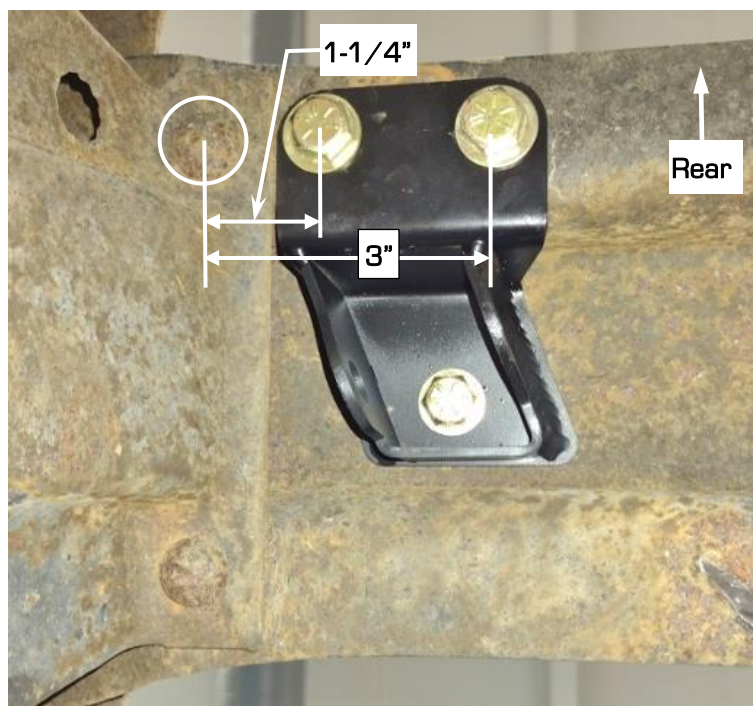

Figure 6 - Locate LH Upper Shock Mount
8. Position the left hand upper shock mount underneath the crossmember. Measure over 1-1/4" from the center of the rivet on the rearward flange of the crossmember (Figure 6). That will be the location of outboard hole on the upper shock mount. Measure over 3" from the center of the rivet, this will be the location of the inboard hole on the upper shock mount. **NOTE:** The two mounting holes on the rearward flange of the crossmember will be on either side of the factory hole left over from removing the rivet in Step 4. The factory upper shock mounts were not symmetrical.